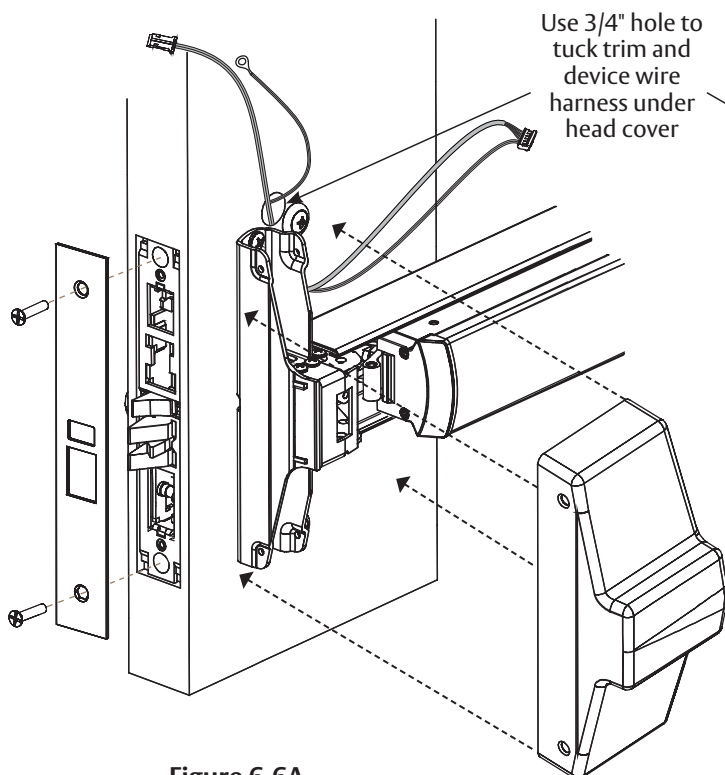

Figure 6-6A
1. Lay device wire harness across 3/4" hole. (Figure 6-6A)